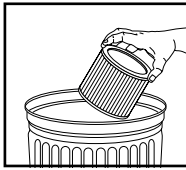

FIGURE 23
33. To clean cartridge filter shake or brush off excess dirt. **FIGURE 23.**